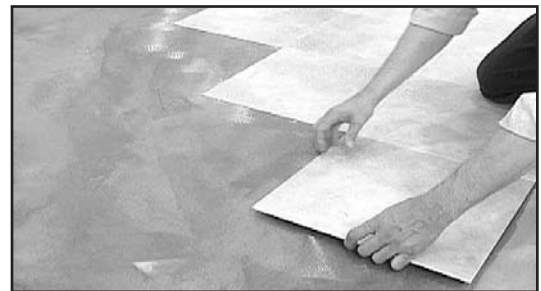

Fig. 14 - Install ungrouted floors following a stair-step pattern.
- When installing an ungrouted floor, continue setting the tiles in a stair-step pattern along the center and perpendicular lines (Fig. 14). Hold the tile in a low angle to the floor and position it tightly against the previously laid tile. Press it firmly into the adhesive. Continue working toward the walls to complete the first quadrant before starting the next. Check to make sure corners are lined up and adjust if necessary to prevent run-out.